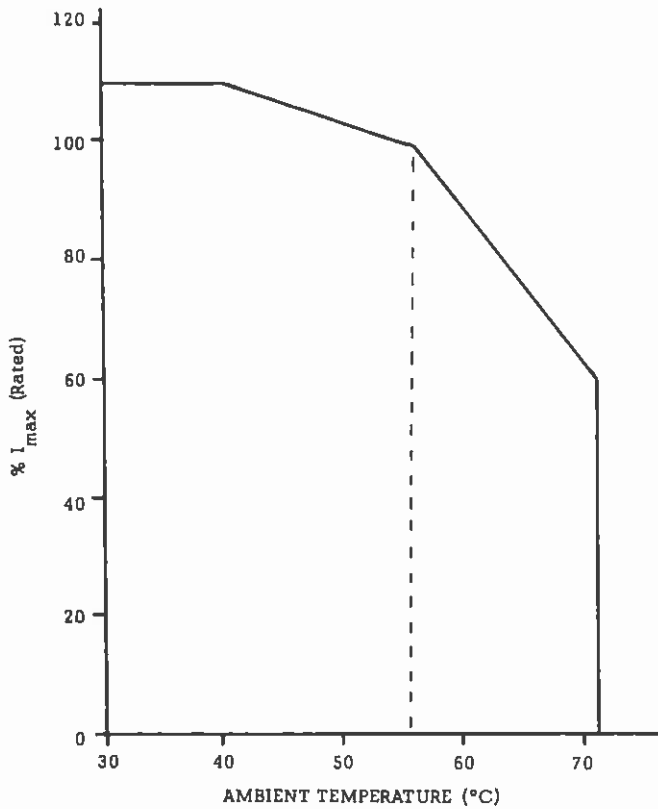

Figure 1-1. Current Derating Characteristics
(1) At nominal input and full rated output.
(2) For derating characteristics, see Figure 1-1.